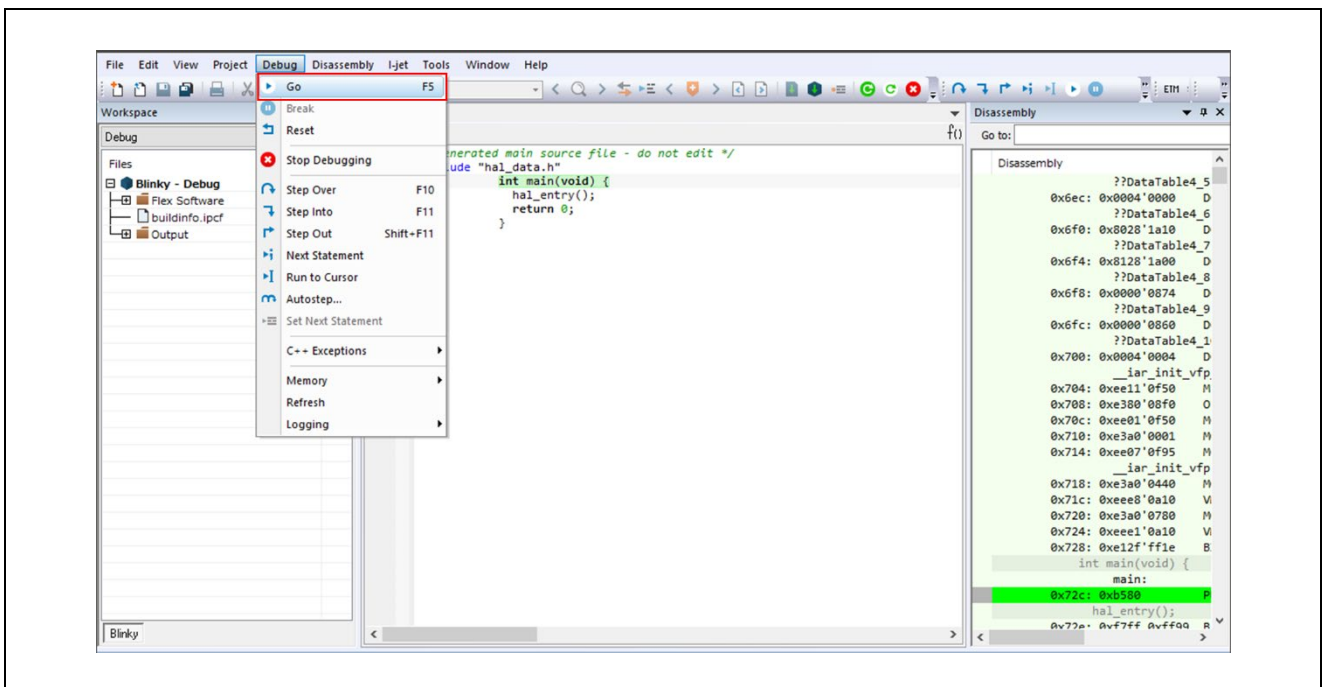

Figure 60 : Go Button
4. Run the program of primary project as shown in Figure 60. If the LED0 and LED1 are blinking, proceed to the next step.